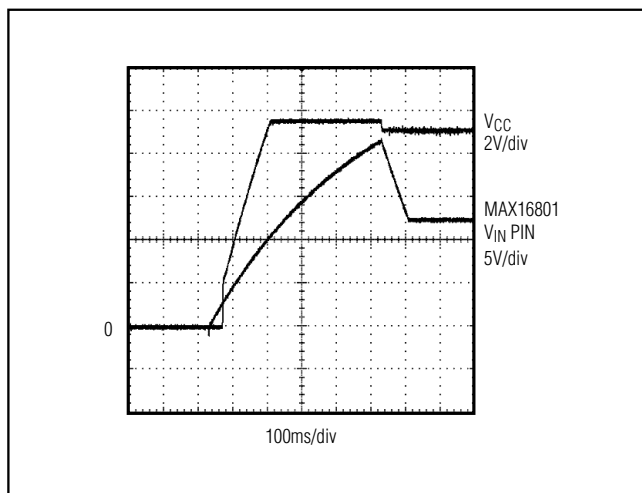
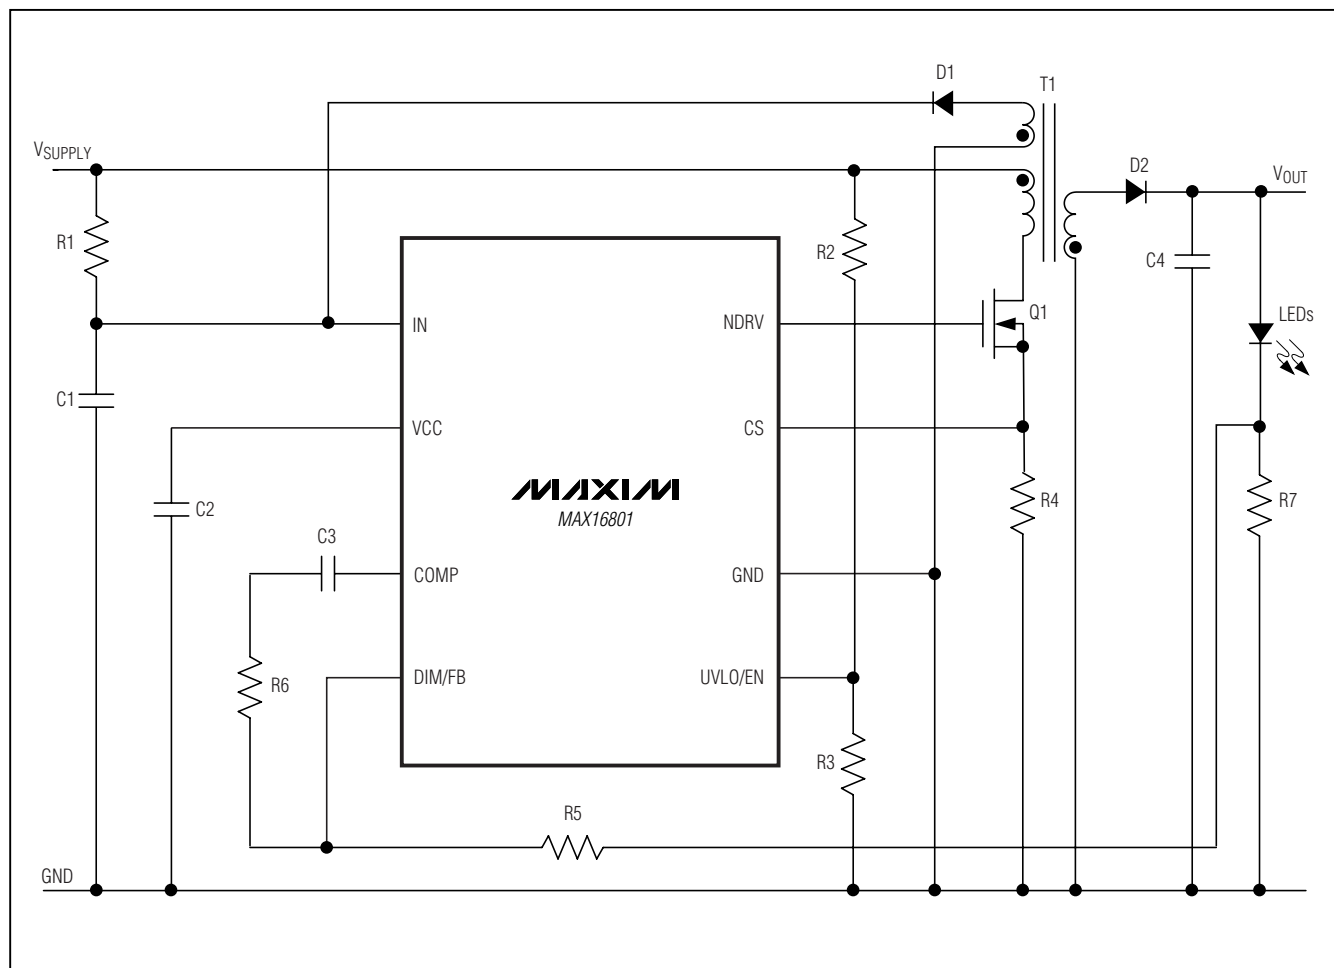

Figure 3.  $V_{IN}$  and  $V_{CC}$  During Startup when Using the MAX16801 in Bootstrapped Mode
Figure 5. Offline, Nonisolated, Flyback LED Driver with Programmable Input-Supply Start Voltage
**Note 3:** The MAX16801 is intended for use in universal input offline drivers. The internal clamp circuit is used to prevent the bootstrap capacitor (C1 in Figure 5) from charging to a voltage beyond the absolute maximum rating of the device when EN/UVLO is low. The maximum current to IN (hence to clamp) when UVLO is low (device in shutdown), must be externally limited to 2mA (max). Clamp currents higher than 2mA may result in clamp voltage higher than +30V, thus exceeding the absolute maximum rating for IN. For the MAX16802, do not exceed the +24V maximum operating voltage of the device.
The MAX16801/MAX16802 have an input voltage UVLO/EN pin. The threshold of this UVLO is +1.28V. Before any operation can commence, the voltage on this pin has to exceed +1.28V. The UVLO circuit keeps the CPWM comparator, ILIM comparator, oscillator, and output driver in shutdown to reduce current consumption (see the *Functional Diagram*). Use this UVLO function to program the input start voltage. Calculate the divider resistor values, R2 and R3 (Figure 5), by using the following formulas:
In isolated LED driver applications,  $V_{IN}$  can be derived from a tertiary winding of a transformer. However, at startup there is no energy delivered through the transformer. Therefore, a special bootstrap sequence is required. Figure 3 shows the voltages on IN and VCC during startup. Initially, both  $V_{IN}$  and  $V_{CC}$  are 0V. After the line voltage is applied, C1 charges through the startup resistor R1 to an intermediate voltage. At this point, the internal regulator begins charging C2 (see Figure 5). The MAX16801 uses only 45 $\mu$ A of the current supplied by R1, and the remaining input current charges C1 and C2. The charging of C2 stops when the VCC voltage reaches approximately +9.5V, while the voltage across C1 continues rising until it reaches
The MAX16801/MAX16802 include an internal error amplifier that can be used to regulate the LED current very accurately. For example, see the nonisolated power supply in Figure 5. Calculate the LED current using the following equation:
The IN bypass capacitor C1 supplies current immediately after wake-up (Figure 5). The size of C1 and the connection configuration of the tertiary winding determine the number of cycles available for startup. Large values of C1 increase the startup time but also supply gate charge for more cycles during initial startup. If the value of C1 is too small,  $V_{IN}$  drops below +9.7V because NDRV does not have enough time to switch and build up sufficient voltage across the tertiary winding that powers the device. The device goes back into UVLO and does not start. Use low-leakage capacitors for C1 and C2.
The above startup method is applicable to a circuit similar to the one shown in Figure 5. In this circuit, the tertiary winding has the same phase as the output windings. Thus, the voltage on the tertiary winding at any given time is proportional to the output voltage and goes through the same soft-start period as the output voltage. The minimum discharge voltage of C1 from +22V to +10V must be greater than the soft-start time of 60ms.
Figure 5 shows an offline application of an HB LED driver using the MAX16801. The use of transformer T1 allows significant design flexibility. Use the internal error amplifier for a very accurate LED current control.